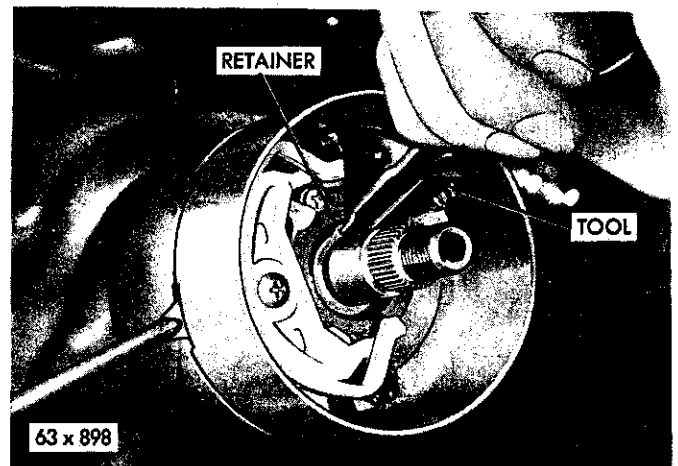

Fig. 7—Removing Bearing Retainer Ring
(7) Disconnect the directional switch wiring at the multiple connector below the instrument panel.
(8) Remove the screws attaching the dust pad to the floor panel and slide the dust pad up on the jacket tube.
(9) Loosen the jacket tube clamp at the steering gear housing.
(10) Remove the retainer snap ring from the groove in the steering tube at the top of the bearing using Pliers Tool C-3128 (Fig. 7).